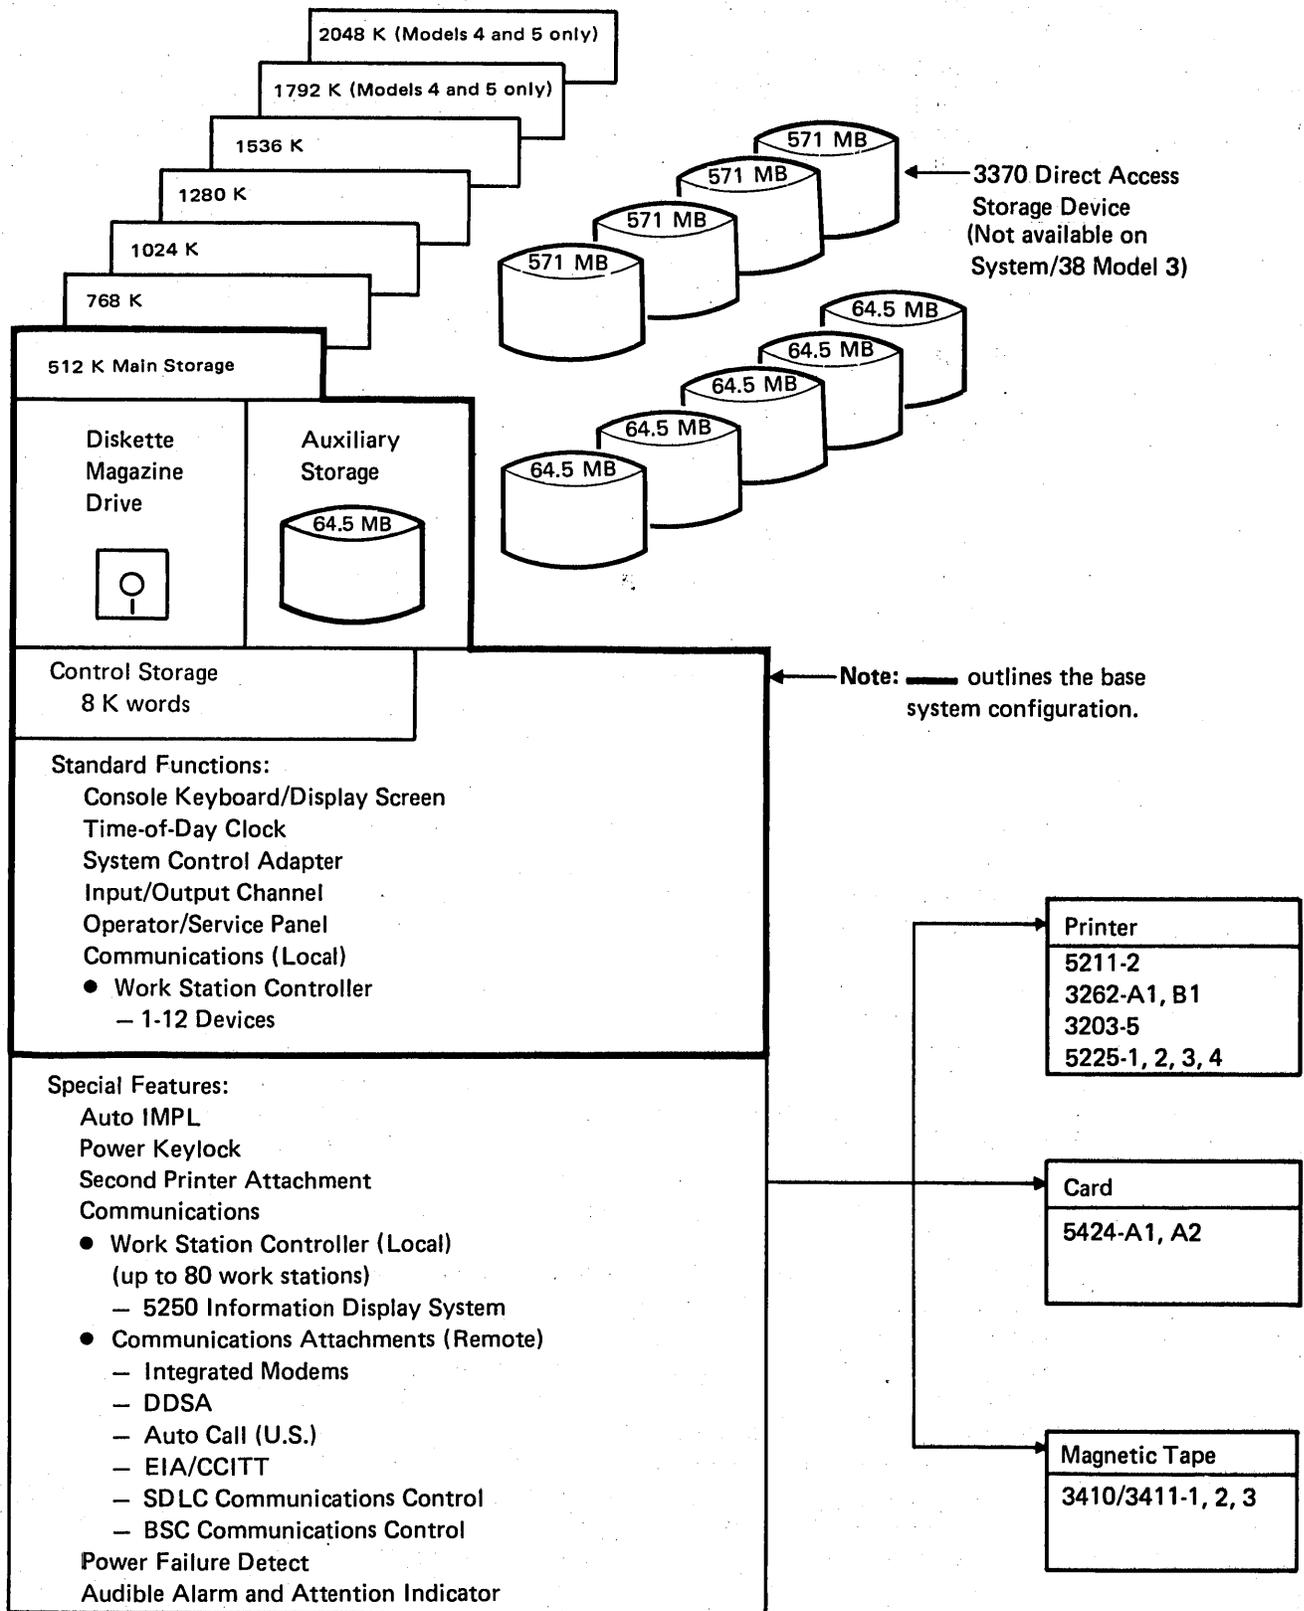

Figure 3-1. Machine Configurator
This chapter describes the devices available. Figure 3-1 shows the various alternatives for System/38 machine configurations.
- Servicing of input/output devices (not included in the base system; see Figure 3-1) while processing continues, if the System/38 Control Program Facility is installed.